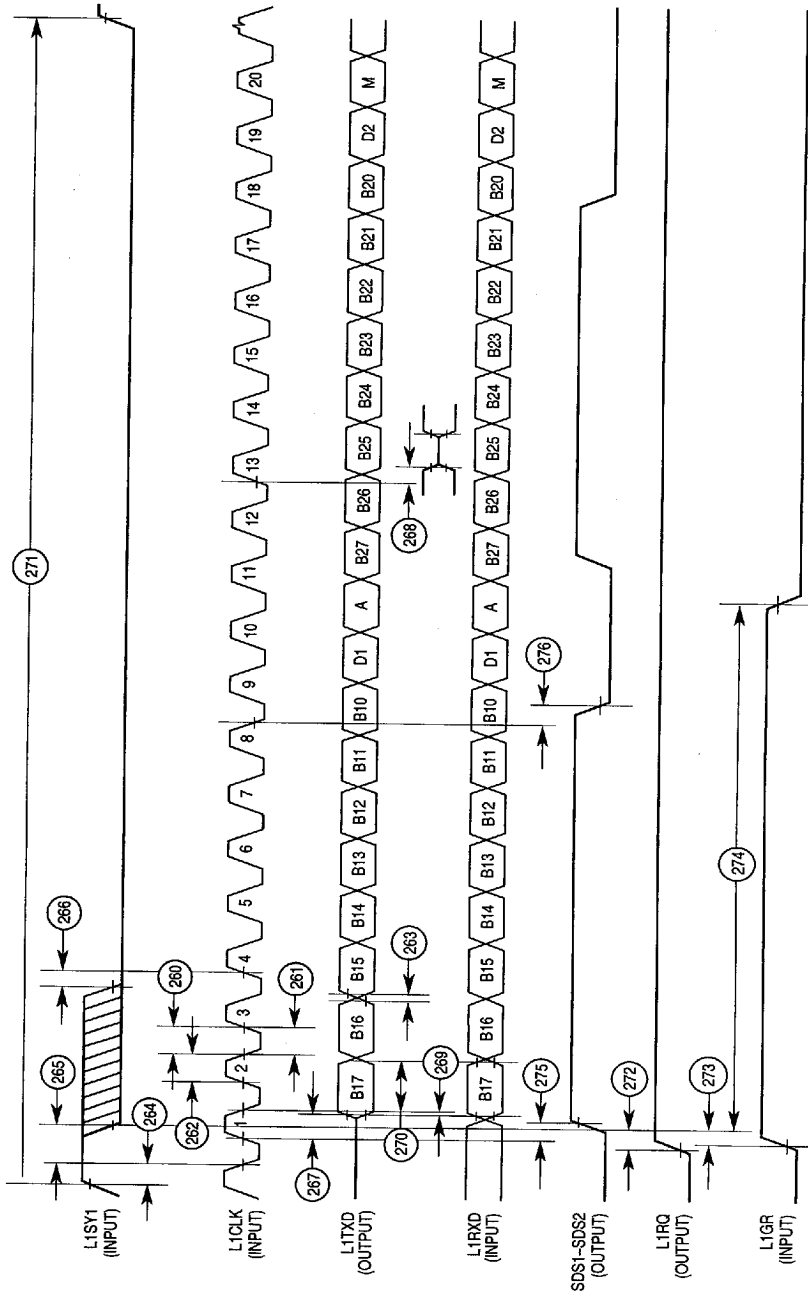

Figure 6-20. IDL Timing Diagram
6.19 AC ELECTRICAL SPECIFICATIONS—IDL TIMING (All timing measurements, unless otherwise specified, are referenced to the L1CLK at 50% point of V_{DD}) (see Figure 6-20).